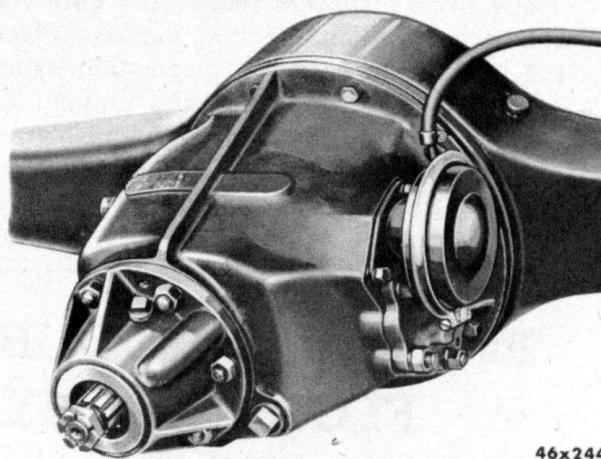

Fig. 77—Power Shift Unit, Side Mounted Type
- (7) Remove the two bearing cups from pinion cage.
a. Side Mounted Type (Fig. 77)